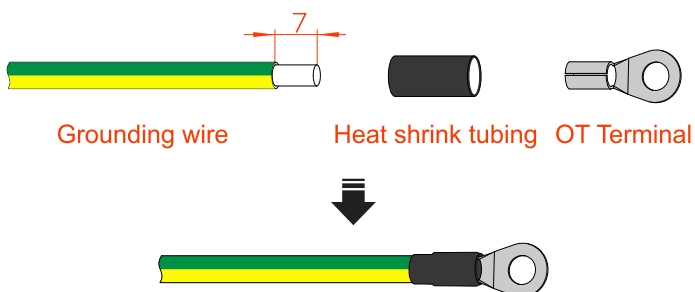

Figure3-14 Stripping diagram of external grounding wire (unit: mm)
Step 1 Strip the insulation layer of grounding wire for about 7mm, insert the wire into OT terminal and crimp them by crimping tool, the as shown in Figure3-14.